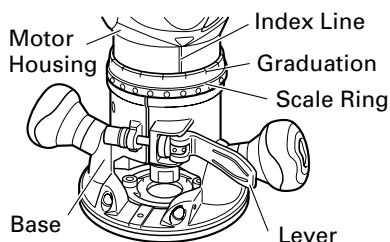

Fig. 5
- (1) Place the tool on a flat wood surface.
- (2) Open the lever and turn the motor housing until the bit just touches the flat surface. (Fig. 5)
- (4) While holding up the base slightly, turn the motor housing clockwise until the index line on the motor housing reaches the desired depth indicated on the scale ring. (Fig. 5)
- (5) Close the lever firmly.